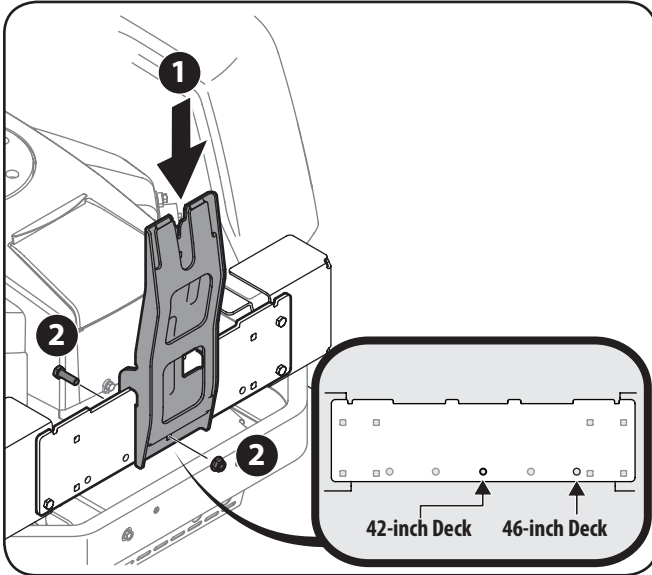

Figure 4-4
3. Install the upright support bracket onto the mounting assembly on the tractor by hooking it over the mounting assembly between the two tabs as indicated in (1) Figure 4-4.
4. Secure the upright support bracket to the mounting assembly in the proper mounting hole based on deck size, with a 710-0376 hex bolt and 712-04063 flange lock nut from hardware pack 689-00320. See (2) Figure 4-4.